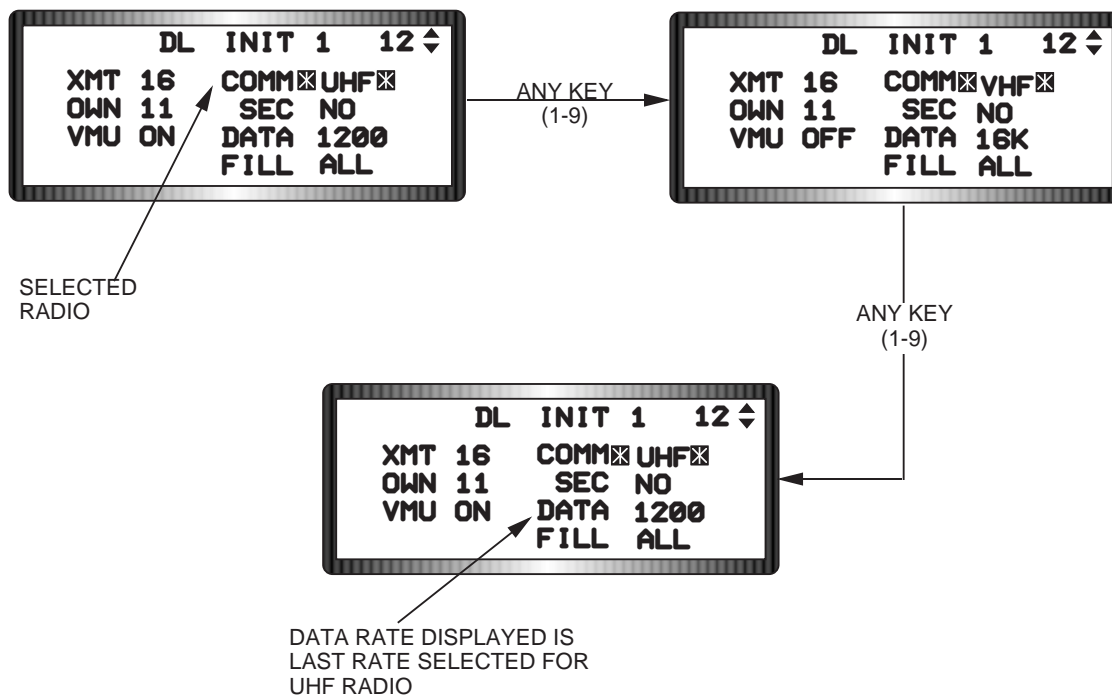

Figure 1-65 Data Rate Selection
**Data Rate Selection.** The Data Rate (DATA) field on the DL INIT 1 page indicates the data rate at which the data link system transmits and receives messages. The data rate can be 16K, 8K, 2.4K, or 1200 BPS. The displayed data rate corresponds to the currently displayed radio type. As previously described, if the currently displayed radio (UHF) is changed to (VHF), the data rate also changes to the rate that was last entered in the (VHF) radio. The data rate selection rotary is changed by positioning the asterisks about the field and pressing any key from 1 through 9 on the ICP (See Figure 1-65). The selected data rate changes sequentially from 16K, to 8K, to 2.4K, to 1200, and then starting over again at 16K. The IDM interfaces with the radio using modulated audio signals at a rate that corresponds to the selected data rate.